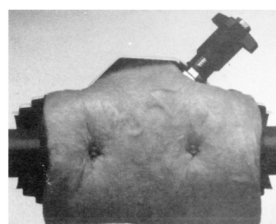

Fig. 3
2. Cut out insulation around pressure taps so that when diagnostic checks are required, plugs are visible when outside shell is removed as shown in fig. 3.